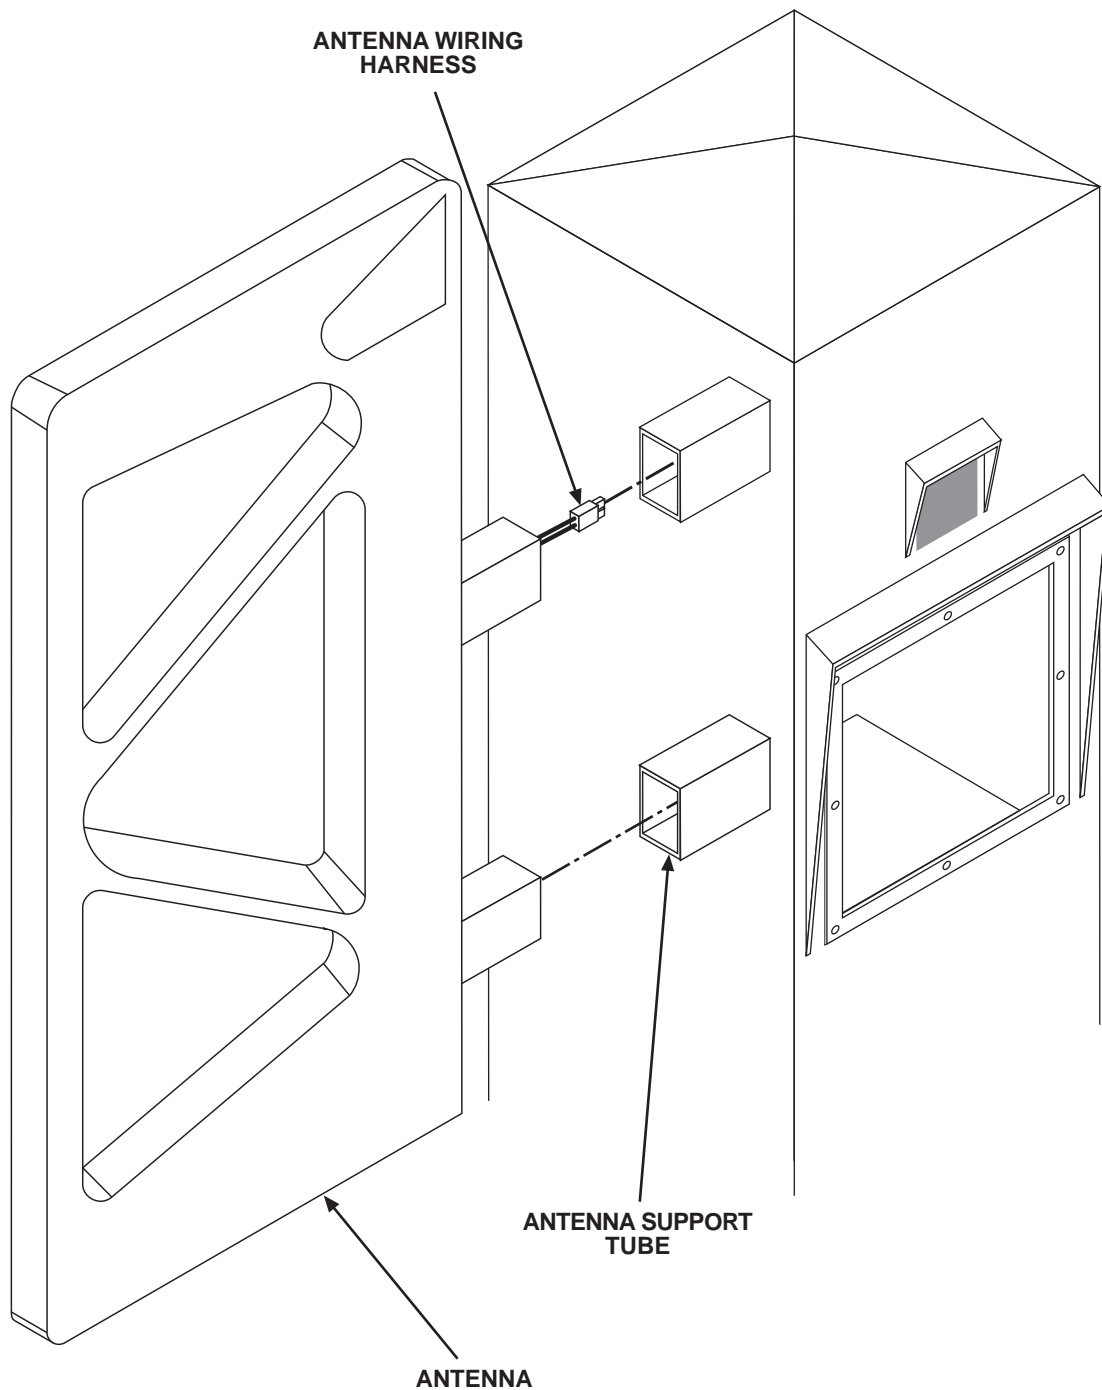

Figure 2-7. Installing the antenna onto the pedestal
1. Route the antenna wiring harness through the top antenna support tube on the pedestal (see figure 2-7 for locations).